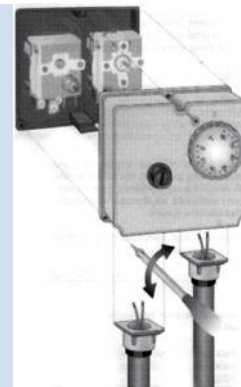

fig 5
B) Unscrew the three bolts and remove the front part of the thermostat. Unravel the power supply wires and connect them to the terminals of the thermostat (Figure 5) following the instructions.